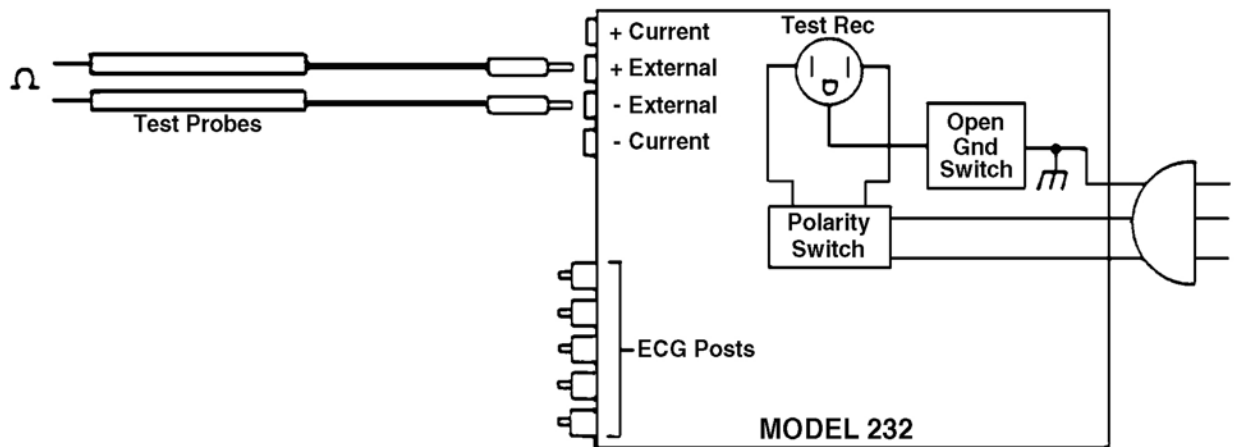
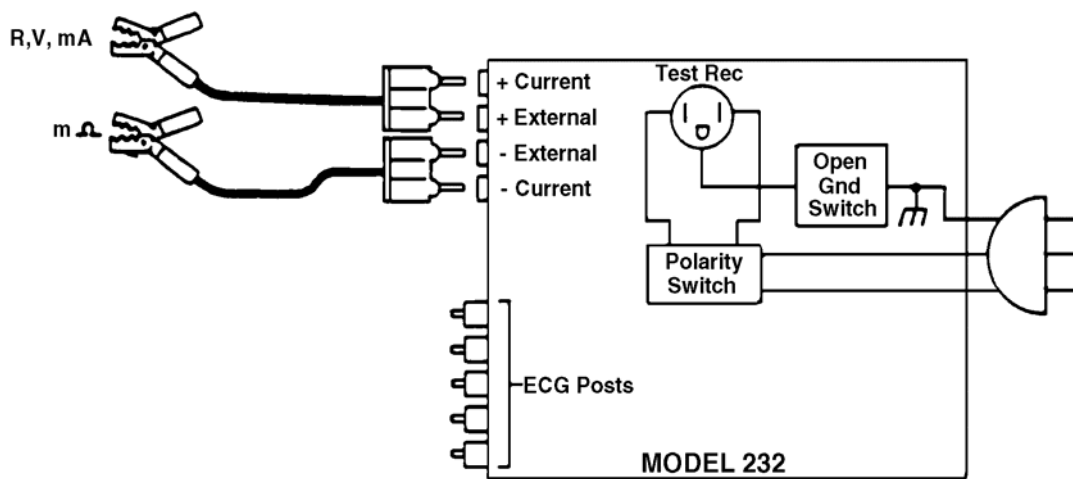

Figure 2-4. External meter connections except mOhms.
Figure 2-5. External meter connections for mOhms.
(1) External meter, ohms. Refer to figure 2-4. Set the mode switch to EXT METER, OHMS. In this mode, the current source and measurement circuits are both connected to the rear panel jacks. Connect the red probe to the red EXT jack and the black probe to the black EXT jack. Connect the resistance to be measured between the probes. Be sure the current source active lamp comes on when the connections are all made. This is a two terminal measurement. You can also perform this test with the Kelvin cables as shown in figure 2-5.
(2) External meter, volts. Refer to figures 2-4 and 2-5. Set the mode switch to EXT METER, VOLTS. Connect a Kelvin cable to the red jacks on the rear panel or a single test lead to the red EXT jack and the other cable to the black jacks. A voltage of up to 500 can now be measured between the cables. The input impedance is 1mOhm, and the AAMI load is connected.
(3) External meter, $\mu\text{A}/\text{mv}$. Refer to figures 2-4 and 2-5. Set the mode switch to EXT METER, $\mu\text{A}/\text{mv}$. Connect a Kelvin cable to the red jacks on the rear panel or a single test lead to the red EXT jack and the other cable to the black jacks or black EXT. A current of up to 2000 μA or a voltage up to 2000mv can now be measured between the cables. The AAMI load is connected which may load down voltage measurements where the impedance of the voltage source is high.
(4) External meter, mOhms. Refer to figure 2-5. Set the mode switch to EXT METER, mOHMS. In this mode, the current source and measurement circuits are both connected to the rear panel jacks. Connect one Kelvin cable to the red jacks and the other cable to the black jacks. Connect the resistance to be measured between the alligator clips. Be sure the current source active lamp lights up when the connections are made. This is a four terminal technique used to accurately measure low value resistances such as less than 2 μ . This is also the only measurement requiring two Kelvin cables.